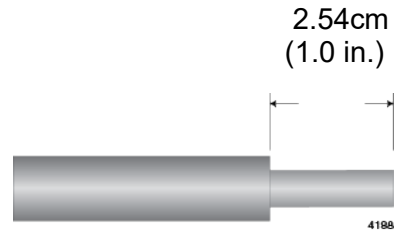

Figure 32. Stripping the Grounding Wire
1. Strip 2.54cm (1.0 in.) of insulation from the end of the solid grounding wire with a wire insulator stripper. Refer to Figure 32.